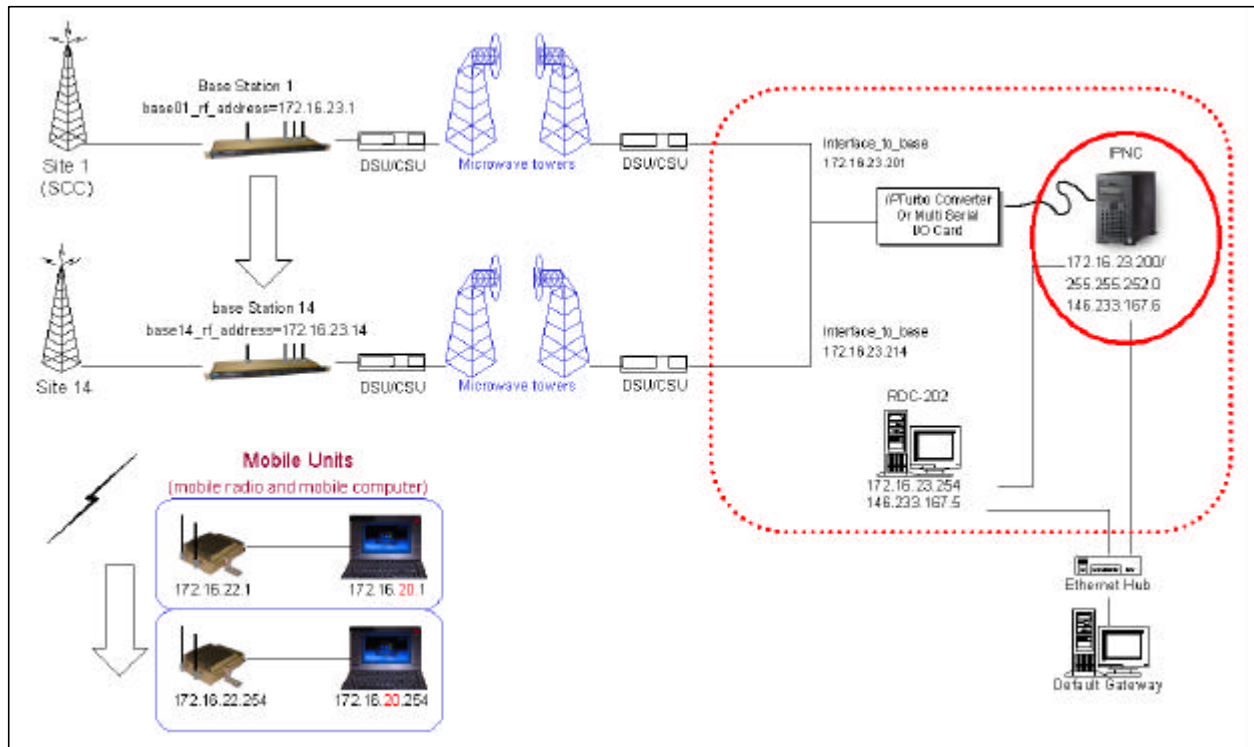

Figure 5: Basic Network Connection
Figure 5 depicts a basic network connection for a network inclusive of one (1) Internet Protocol Network Controller (IPNC) and a range of base stations, mobile radios, mobile computers, and additional components that can interface with the system.